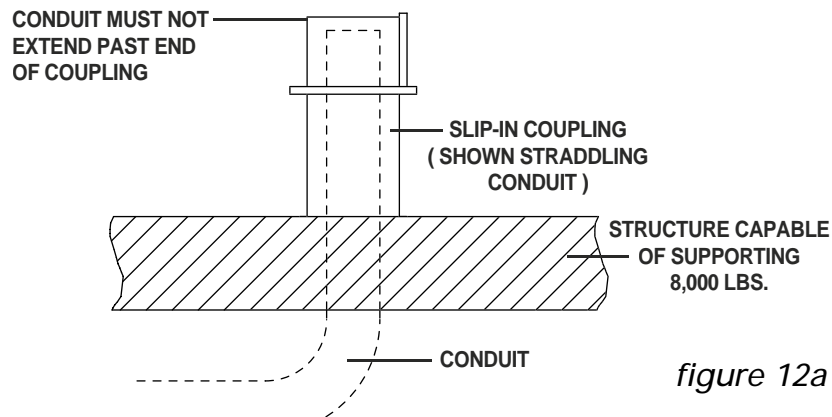

figure 12a
2. Place the coupling over the conduit. The conduit must NOT extend past the end of the coupling. ( See Figure 12a. )